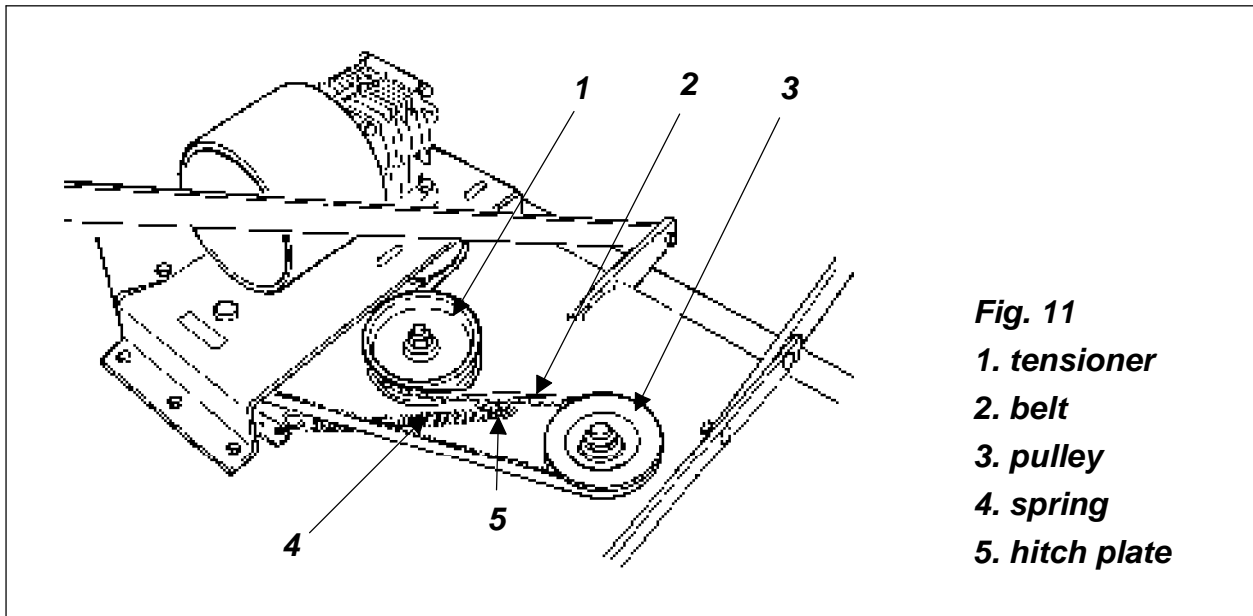

Fig. 11
The C28 mower has an automatic belt tensioner. The tension is created by a spring connecting a tensioner pulley to a fixed hitch plate with 3 positions (see fig. 11). Upon delivery, the spring is located in the first position. When the belt stretches after use, adjust the tension by relocating the spring in the other two holes. If the belt has stretched to the point that the belt is not tight enough even in the last hole it is necessary to replace the belt.
4. Remove front nuts holding central plate (**see fig. 11**).
1. remove the belt¹⁶ (**see fig. 11**).